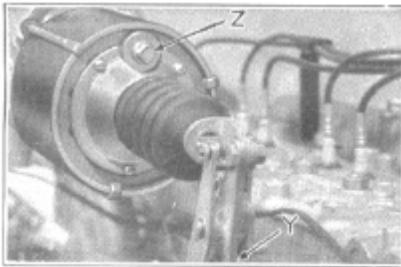

Figure 36
**LUBRICATION** — Vacumotive Drive linkage connections should be lubricated every 1,000 miles with a few drops of light engine oil. Also apply a few drops in the mounting bracket pivot hole (Y), Fig. 36.